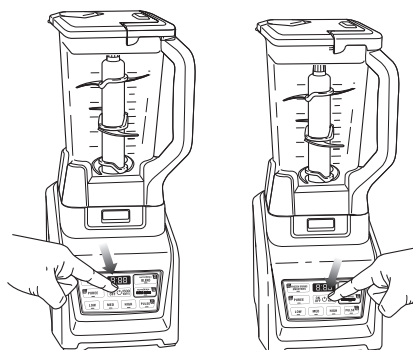

Fig. 7
- 11 Press the power button to turn on the unit. Select the speed or AUTO-iQ™ Program that best suits your needs. The AUTO-iQ™ program will stop the appliance automatically at the end of the program. (Fig. 7)